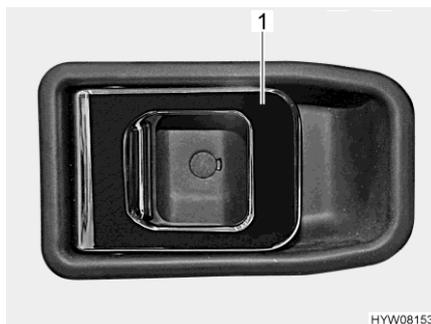

Fig. 31 Door lock (driver's door/conversion door, inside)
**Opening:** ■ Pull on the handle (Fig. 31,1). The door lock is unlatched or opened.
**Locking:** ■ Push the handle (Fig. 31,1). The door lock is locked.